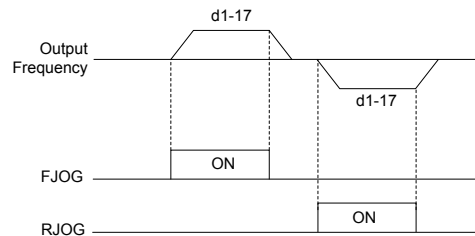

**Figure 5.48 Up/Down Command Operation**
**Figure 5.48** shows an Up/Down function example with a lower frequency reference limit set by d2-02 and the frequency reference hold function both enabled (d4-01 = 1) and disabled (d4-01 = 0).